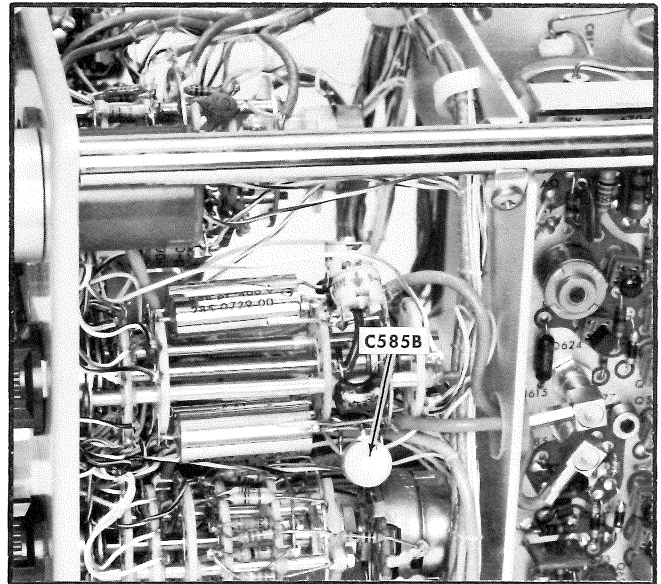

Fig. 7-21. Location of C585B for step 20.
- n. Obtain a stable display and adjust C585B, Fig. 7-21, for 1 cycle per division.